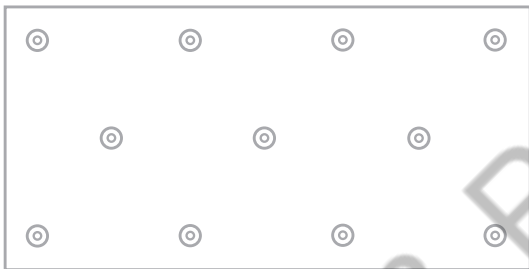
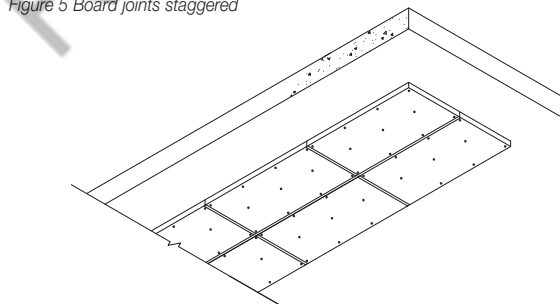

Figure 3 Fastener pattern (11 No. per board)
Figure 6 Board joints squared
2. Board joints can be either staggered (see Figure 5) or squared (see Figure 6) and taped with 96 mm wide silver *Kingspan* Insulation Tape. Fasteners along each length - no less than 50 mm - no more than 150 mm from edge of board, 3 No. fasteners along the middle (offset from edge positions as per diagram Figure 3).